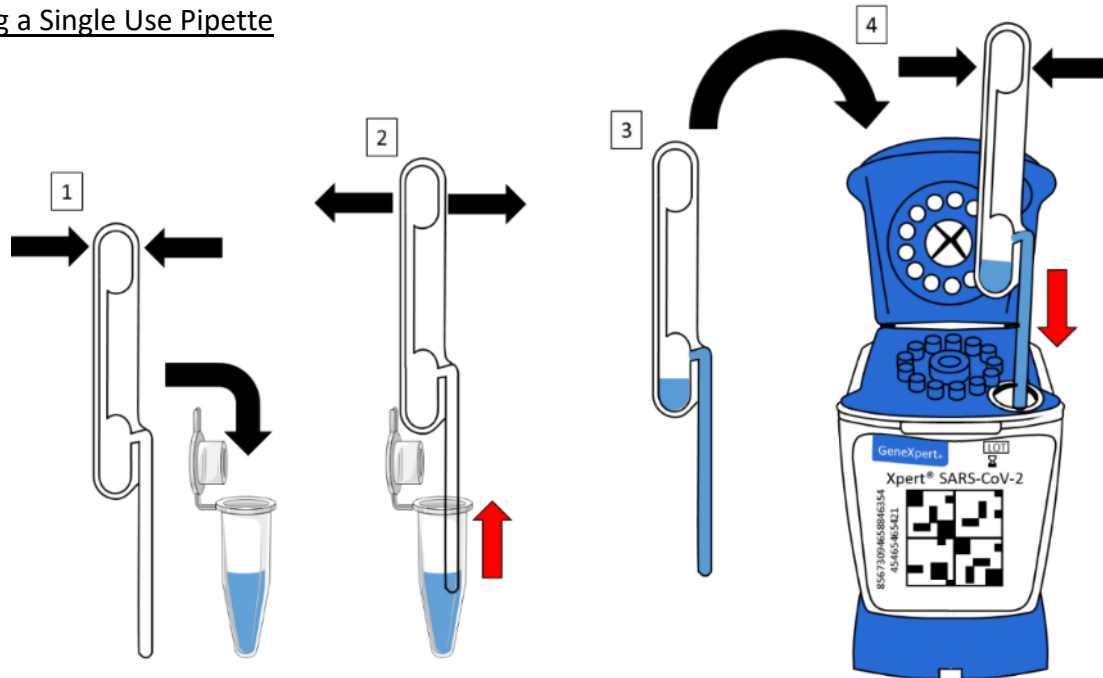

Figure 9. Use of a single use pipette
- N. With the single use pipette (Figure 9.), load 300  $\mu$ L of the wastewater from the microcentrifuge tube into the GeneXpert cartridge, firmly snap close the lid of the cartridge.